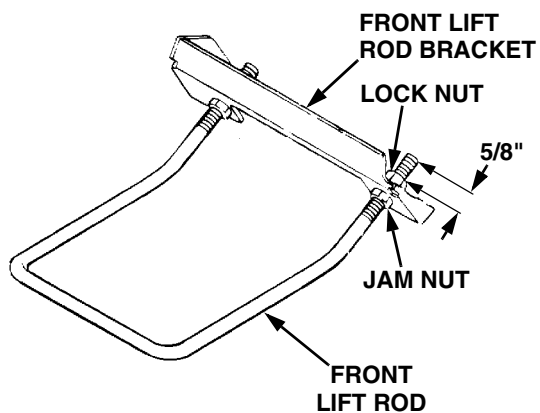

Figure 53
2. If making the initial installation of the deck, adjust the front lift rod to allow 5/8 inch of thread to protrude beyond both lock nuts of the front lift rod/ bracket assembly (See Figure 53).
6. To adjust the downward tilt of the blades, adjustment of the front lift rod is required. Refer to Figure 53 and proceed as follows: